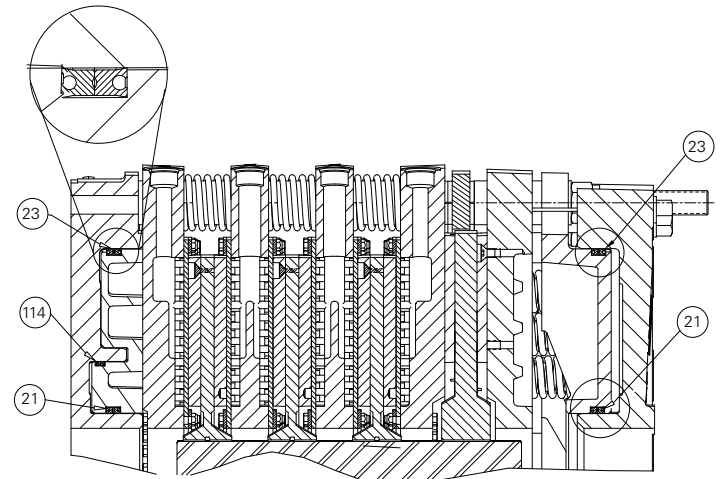

Figure 13
- 4.6.1.4 Insert new seals into the grooves, noting the orientation of the seals per Figure 13.
- 4.9.2 Lubricate the seals (21), (23) and (114) with Molykote O-ring lubricant, and install them into the seal grooves on the piston (33). Note the orientation of the seal lips, per Figure 13. Lubricate the seal surfaces in the mounting flange/cylinder (112) and evenly insert the piston into the mounting flange/cylinder.